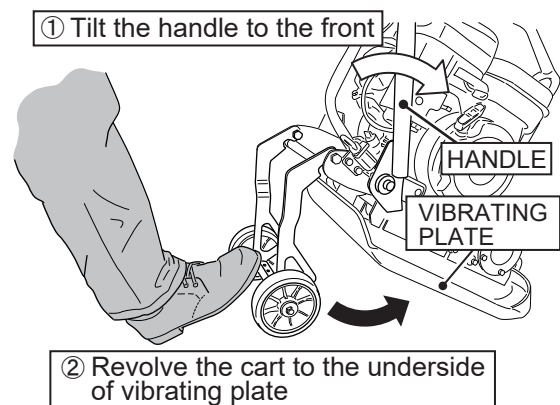

Fig.11
3. Tilt the handle to the front until the rear end of vibrating plate leaves the ground. Then, revolve the cart to the underside of vibrating plate until the frame of cart contacts the vibrating plate (fig. 11).